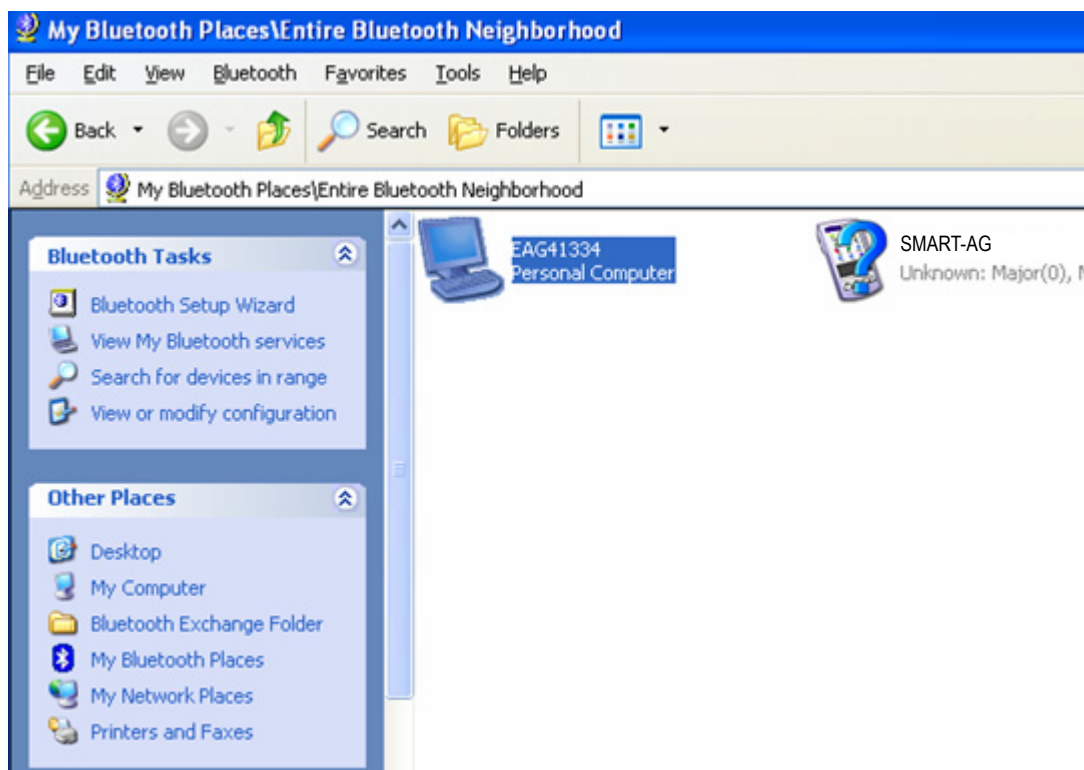

Figure 21: *My Bluetooth Places* Window
3. Click on the *Search for devices in range* option from the *Bluetooth Tasks* side bar on the left of the *My Bluetooth Places* window. *Bluetooth-enabled* devices within range appear in the *Entire Bluetooth Neighborhood* folder, see *Figure 21* below.
1. Double-click on the SMART-AG device icon in the *Entire Bluetooth Neighborhood* window, see *Figure 21* on *page 54*. The PC/laptop searches for available services. If *Bluetooth* is working properly, COM port service appears.
2. Click on the *Search for devices in range* option from the *Bluetooth Tasks* side bar on the left of the *My Bluetooth Places* window. *Bluetooth*-enabled devices within range appear in the *Entire Bluetooth Neighborhood* folder, see *Figure 21* on page 54.
3. Double-click on the SMART-AG device icon in the *Entire Bluetooth Neighborhood* window, see *Figure 21* on page 54. The PC/laptop searches for available services. If *Bluetooth* is working properly, COM port service appears.